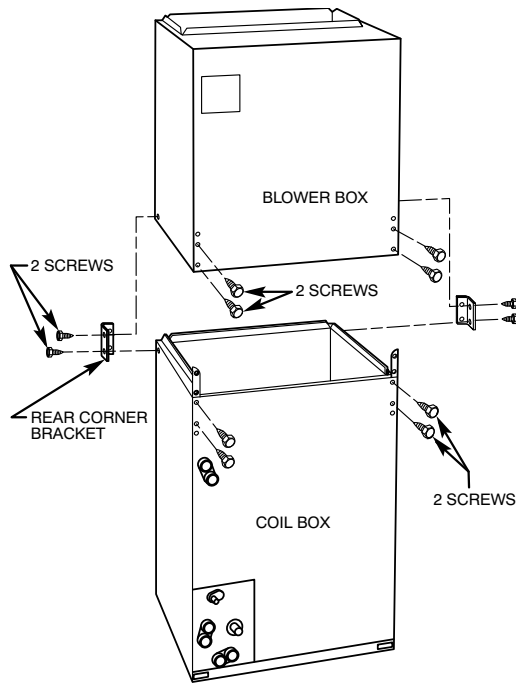

Fig. 7 – Removal of Brackets on Modular Unit
**NOTE:** Modular units can be disassembled and components moved separately to installation area for reassembly. This process accommodates small scuttle holes and limiting entrances to installation sites (Fig. 7).
- b. Remove air splitter (B) from coil seal assembly by removing 3 screws (Fig. 7 inset).
- c. Remove filler plate (A) and install air splitter (B) in place of filler plate.
- d. Install filler plate (A) as shown in horizontal right application.
- e. Remove condensate troughs (C) and install on opposite tube sheets.